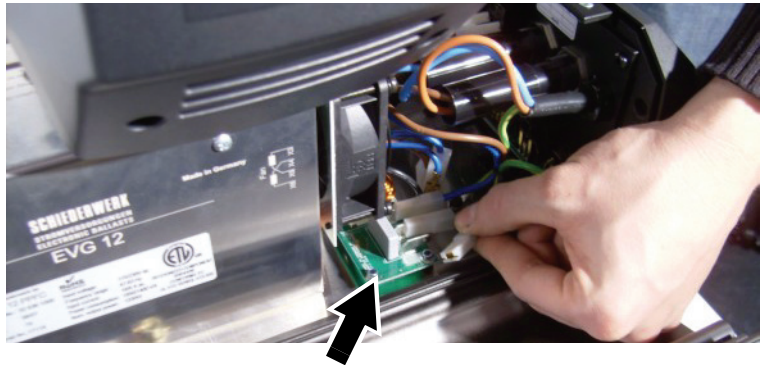

Figure 9
- See Figure 9. Cut cable ties if necessary and disconnect the mains power leads from PL1, PL2 and PL3 on the mains filter PCB (arrowed) that is part of the ballast assembly.